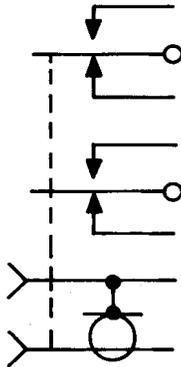

Fig. 5—475E Jack
- (e) **475E:** This jack (Fig. 5) is used with the J64036B Measuring Set.